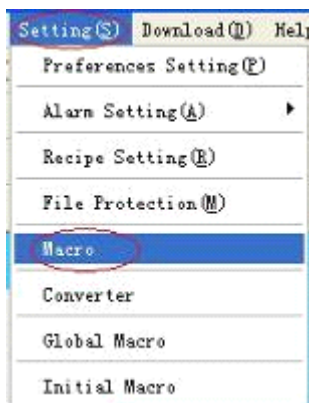
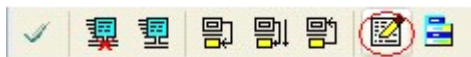
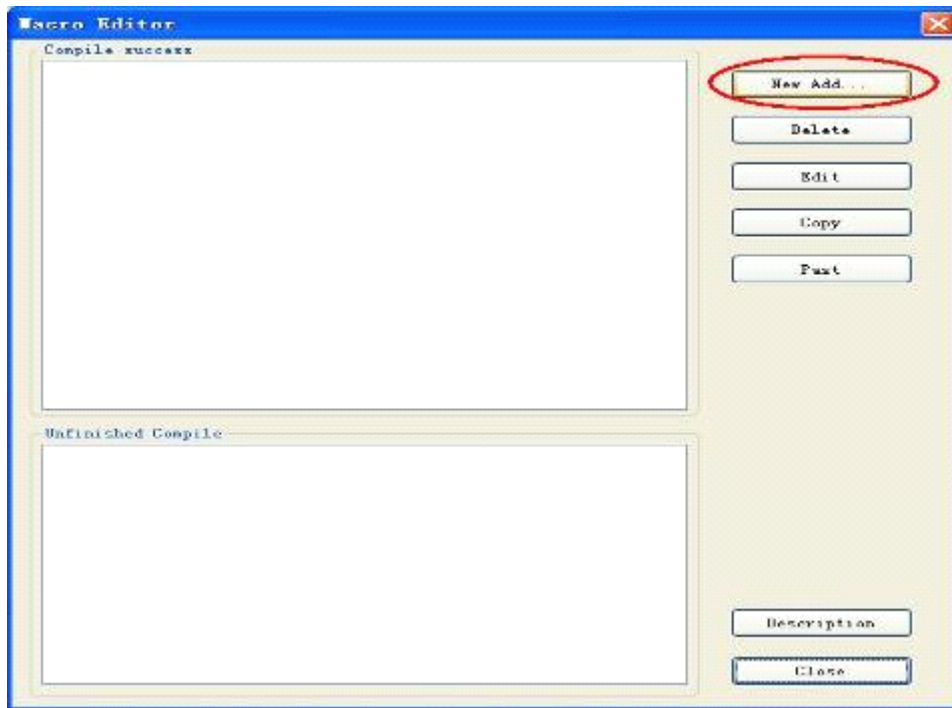

Figure 5-1 (Macro Menu)
Figure 5-2 (Macro Button)
Figure 5-3 (Macro Editor)
Method 1: select "Setting (S) -> Macro" from the menu as shown in Figure 5-1 (macro menu), and pop up interface as shown in Figure 5-3 (macro editor).
Method 2: click shortcut button "Macro" as shown in Figure 5-2 (Macro button), and pop up interface as shown in Figure 5-3 (Macro Editor).
The functional controls are arranged in macro editor window as shown in Figure 5-3 (Macro Editor).